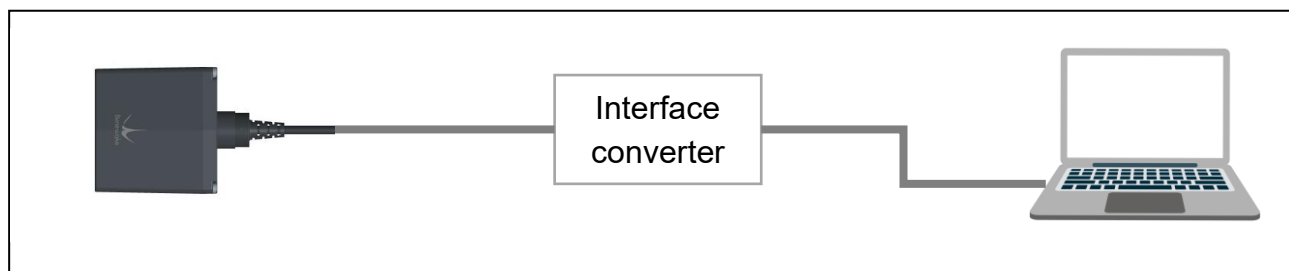

Figure 18 TF350 connecting to PC
- Connect TF350 to the PC or laptop with a **paired USB converter** cable as shown in Figure 18 TF350 connecting to PC. The RS-485 version TF350 needs a RS-485-USB converter, and the RS-232 version TF350 needs a RS-232-USB converter.